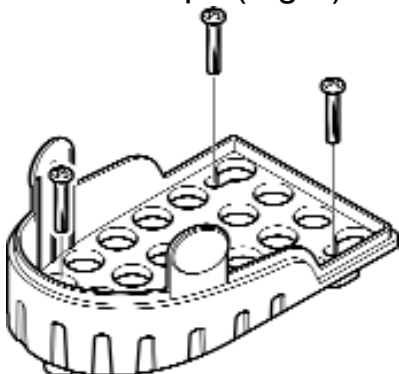

Fig 5 Connect Strainer IC to bulkhead
- FIG 5 STRAINER IC CONNECTION
- Drill pilot holes. **NOTE:** do not drill through hull; ensure that strainer is mounted to additional board or bulkhead (Fig 5).